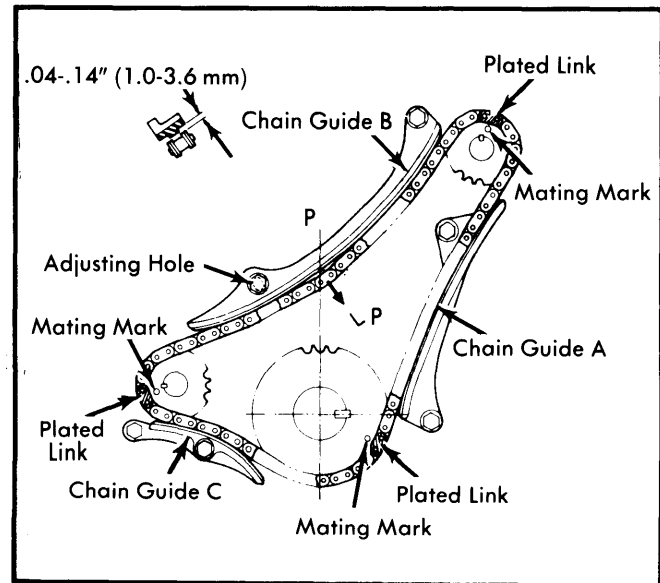

Fig. 10 Silent Shaft Drive Chain Installation
4) Install sprocket screw on camshaft. Install silent shaft chain drive sprocket on crankshaft. Install chain to oil pump sprocket and to silent shaft sprocket. Be sure timing marks (punch marks on teeth) are aligned with plated links of chain. See Fig. 10.
6) Install oil pump and silent shaft sprocket screws. Loosely install 3 chain guides. Adjust silent shaft tension by tightening chain guide "A" and "C". Then shake oil pump and silent shaft sprockets to collect chain slack at point "P" of Fig. 10.